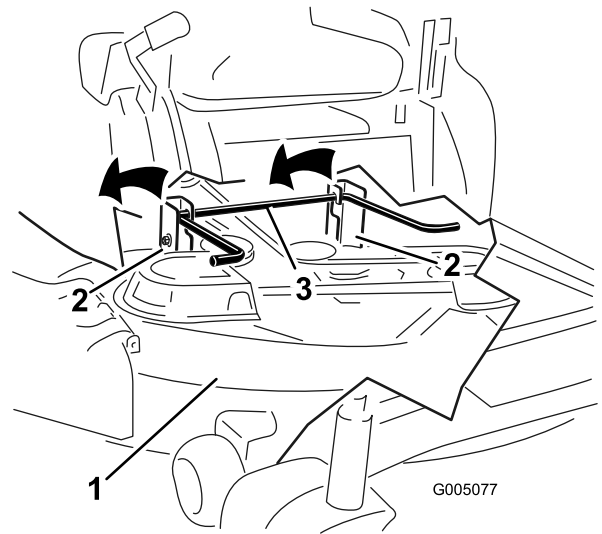

Figure 55
5. Lift the rear of the mower deck and guide the hanger brackets over the rear lift rod (Figure 55).